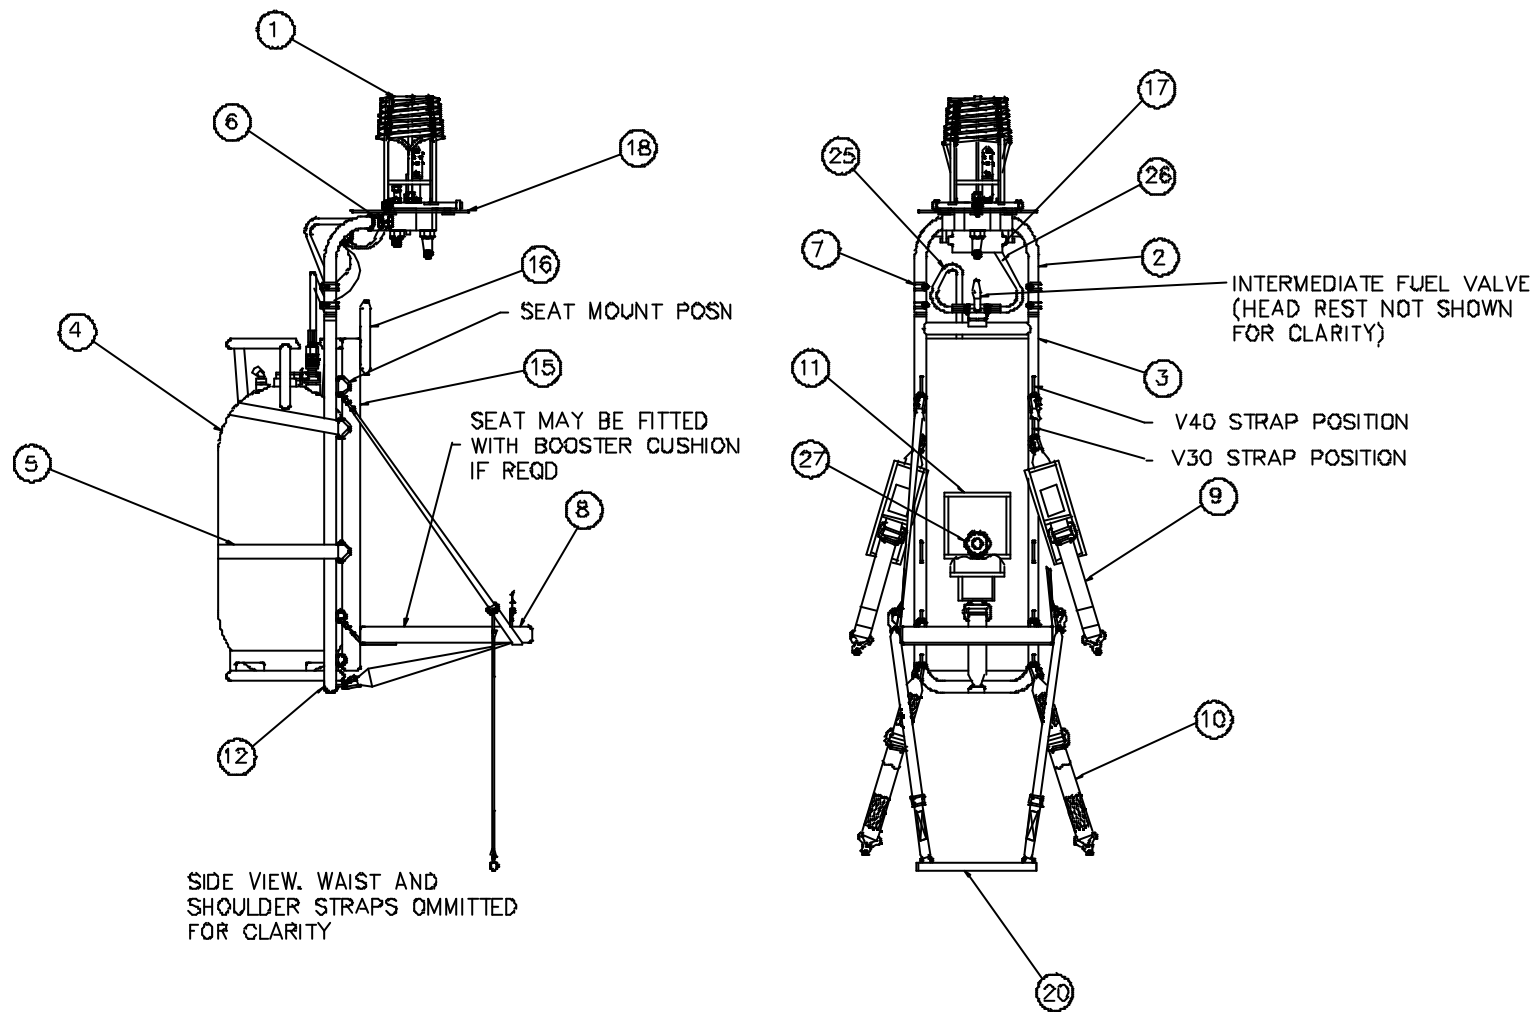

FIG 1. SERIES 2 CLOUDHOPPER BOTTOM END
v) Attach the seat assembly (item 8) to the rear frame (item 3) by securing the five rapid links to the triangular loops and "D" lugs, in the positions shown in Figure 1. Ensure all rapid links are fully tightened.
vi) Attach the two harness shoulder straps (item 9) to the rear frame (item 3) by securing the two rapid links to the lower triangular loops, as shown on Figure 1. Ensure both rapid links are fully tightened.
vii) Attach the two harness waist straps (item 10) to the rear frame (item 3) by securing the two rapid links to the "D" lugs, as shown on Figure 1. Ensure both rapid links are fully tightened.